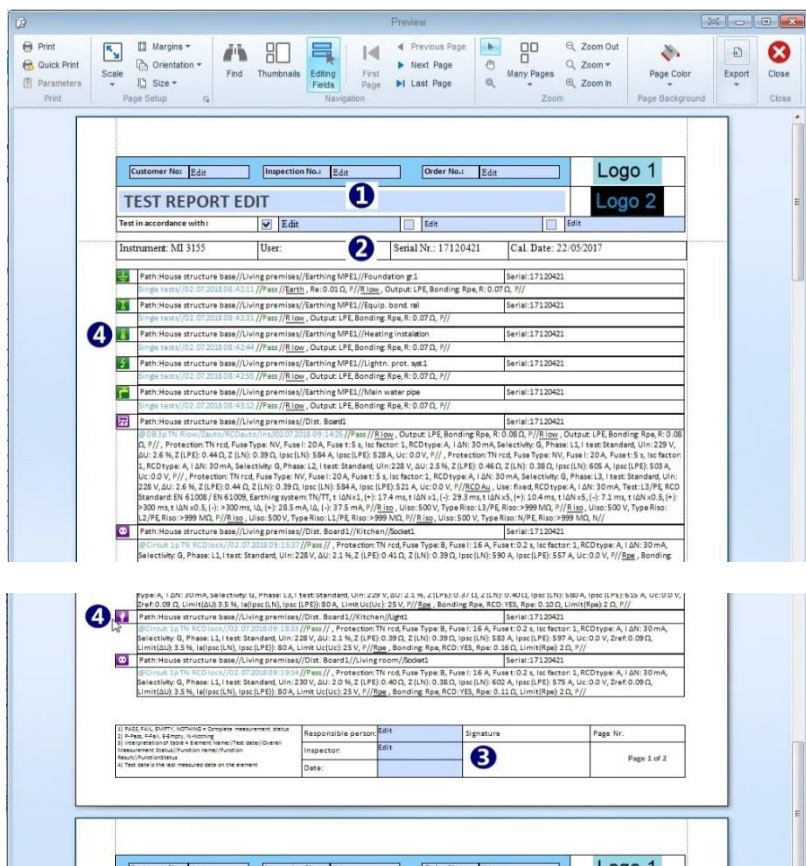

Figure 9.4: Basic report document format preview
- Click on **Basic report** within Tools group of Home menu tab opens Test project Basic report document in Preview manager window, **Figure 9.4**.
- **Header** of Test project Basic report document (1) appear on the top of each page:
- Complete **Instrument data** (2) appear on the beginning of Results list on first page only, was set automatically when Data structure file was downloaded.
- **Footer** of Test project Basic report document (3) appear on the bottom of each page and contain:
- **Results** (4) are presented in two table rows: